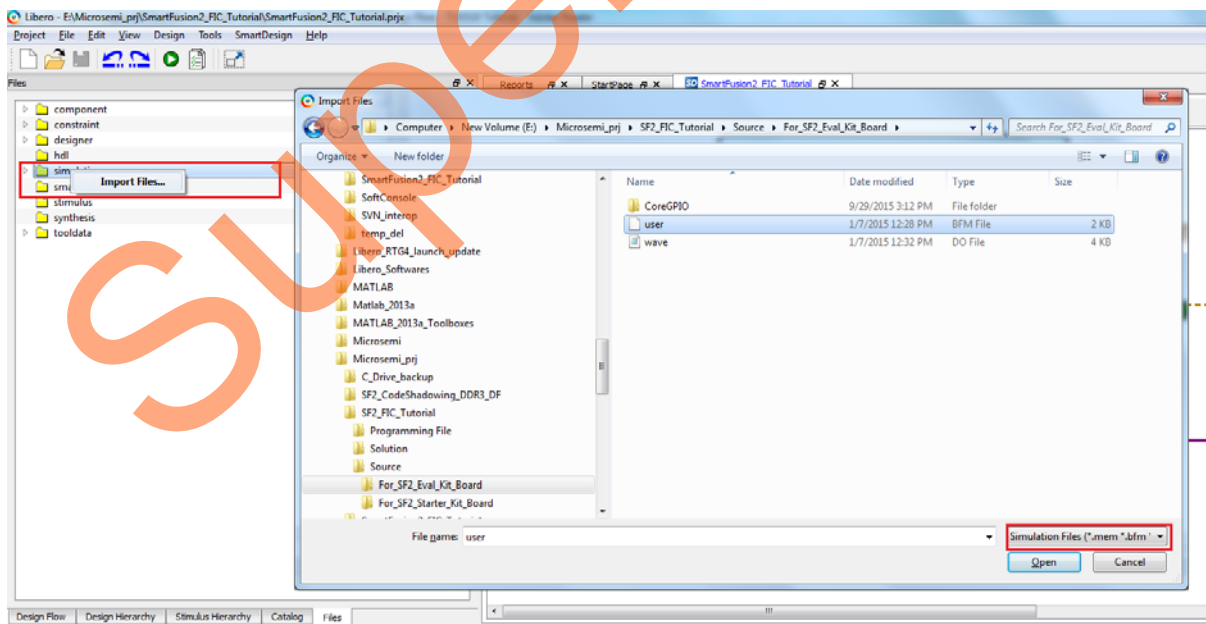

Figure 24 • Import bfm file
1. For SmartFusion2 Security Evaluation Kit board, right-click the simulation under project files and select import files to import the `user.bfm` file which is located in downloaded design files (`\\SF2_FIC_Tutorial\\Source\\For_SF2_Eval_Kit_Board\\user.bfm`) as shown in Figure 24 or select **Files > Import > Others** to import the `user.bfm` file.